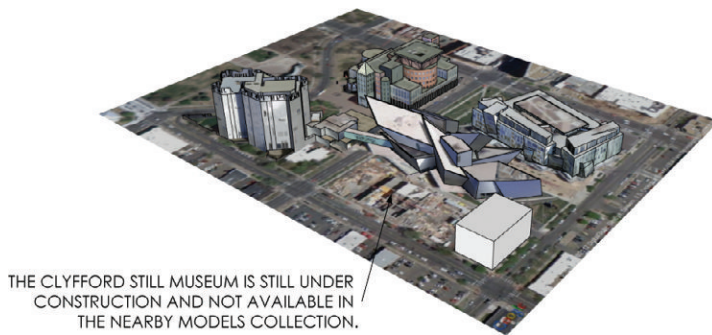

Figure 16.6 The final site with context models
5. Unlock and delete the 3D terrain and aerial imagery in all of the imported context models. The most current and accurate terrain is already imported into your model (Figure 16.6).